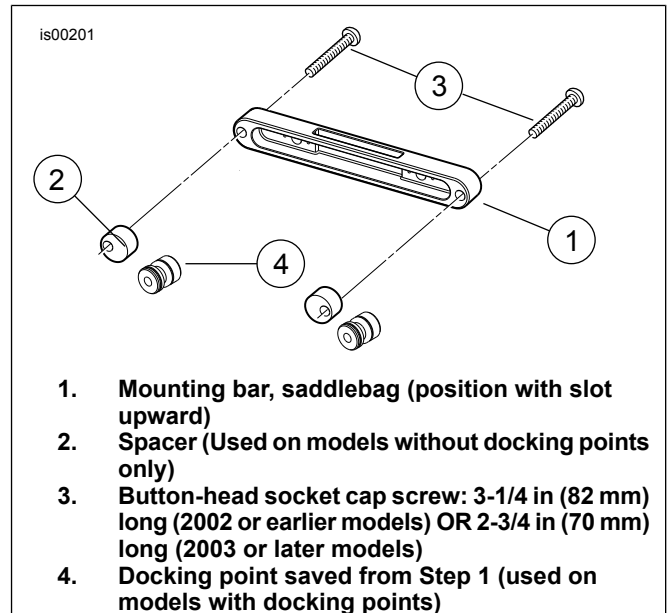

Figure 2. Install Mounting Bar
3. See Figure 2. Fasten the mounting bar to the fender support as follows:
- b. If a docking point was not removed in Step 1, position a spacer (2) from the kit against the back side of the mounting bar.
- d. Insert the proper screw (3) for your year motorcycle through the hole in the mounting bar, and the spacer or docking point. Apply a few drops of Loctite® 243 (blue) to the screw threads.